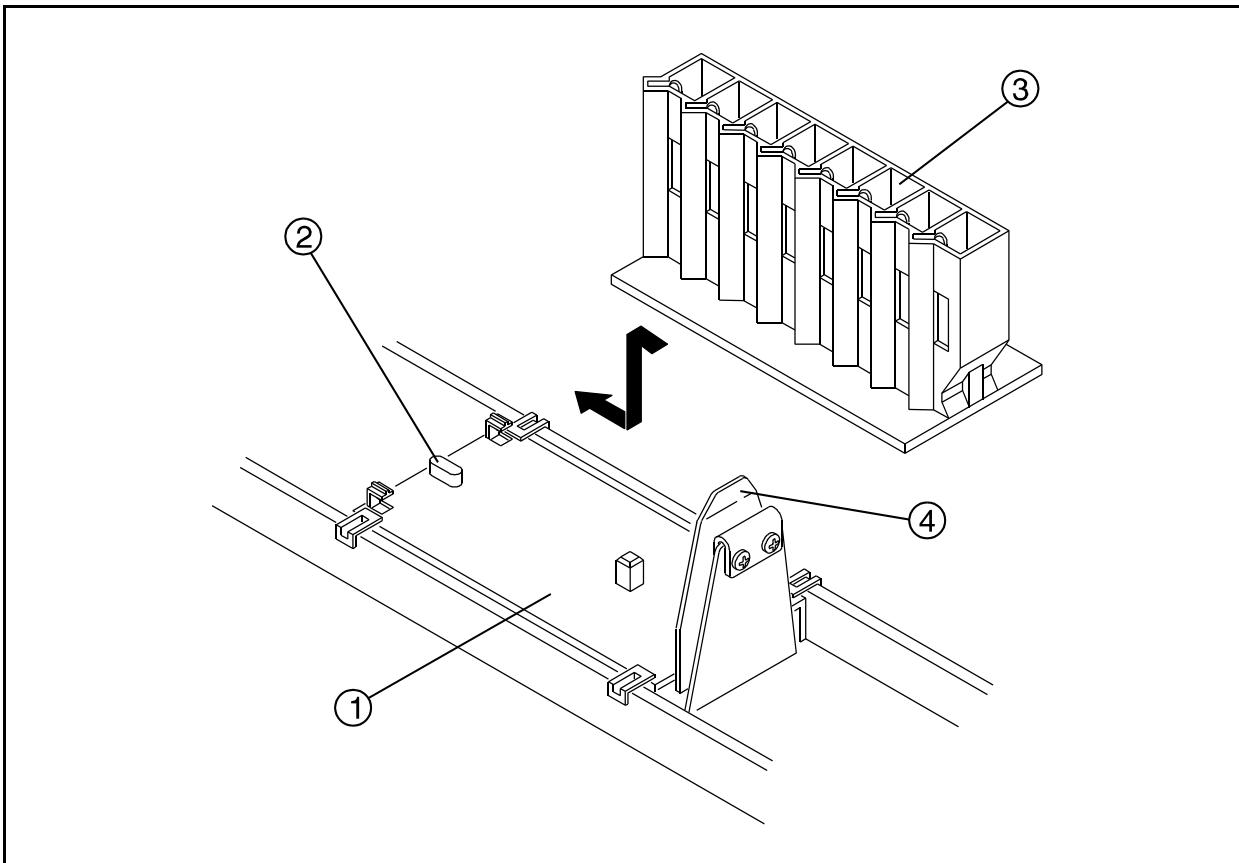

Figure 4-1 Removing / Replacing the 8-Position Multi-Cell Holder
3. With the other hand, pull up on the 8-Position Multi-Cell Holder and lift it out of the sample compartment (Figure 4-1).